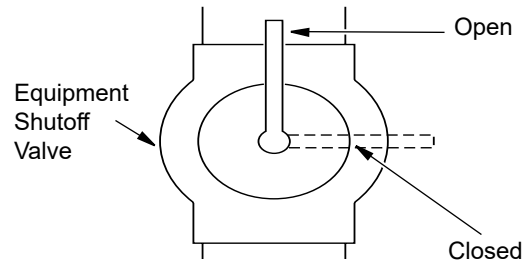

Figure 12 - Equipment Shutoff Valve
1. Close equipment shutoff valve (see Figure 12).
1. Open equipment shutoff valve (see Figure 12, page 8).